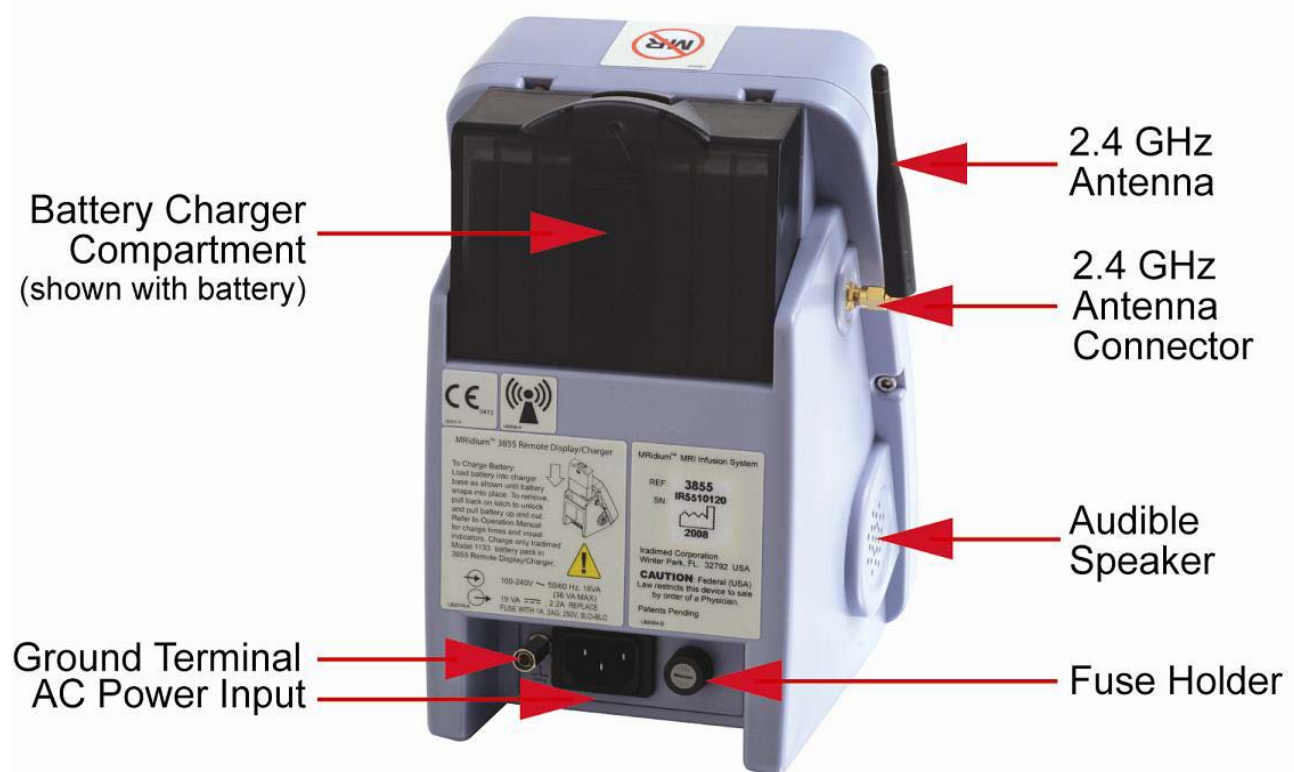

Figure 1-7. Back of 3855 Remote Display/Charger
1.1.6 Back of the Remote Display/Charger. See Figure 1-7 for the location of the major components on the back of the 3855 Remote Display/Charger.